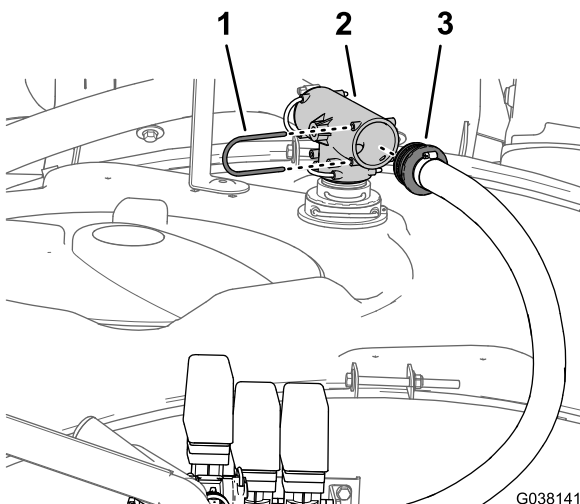

Figure 25
5. At the top of the of the sprayer tank, remove the retainer that secures the straight barbed fitting of the bypass hose to the T-fitting (Figure 25).
6. Remove the straight barbed fitting from the T-fitting (Figure 25).